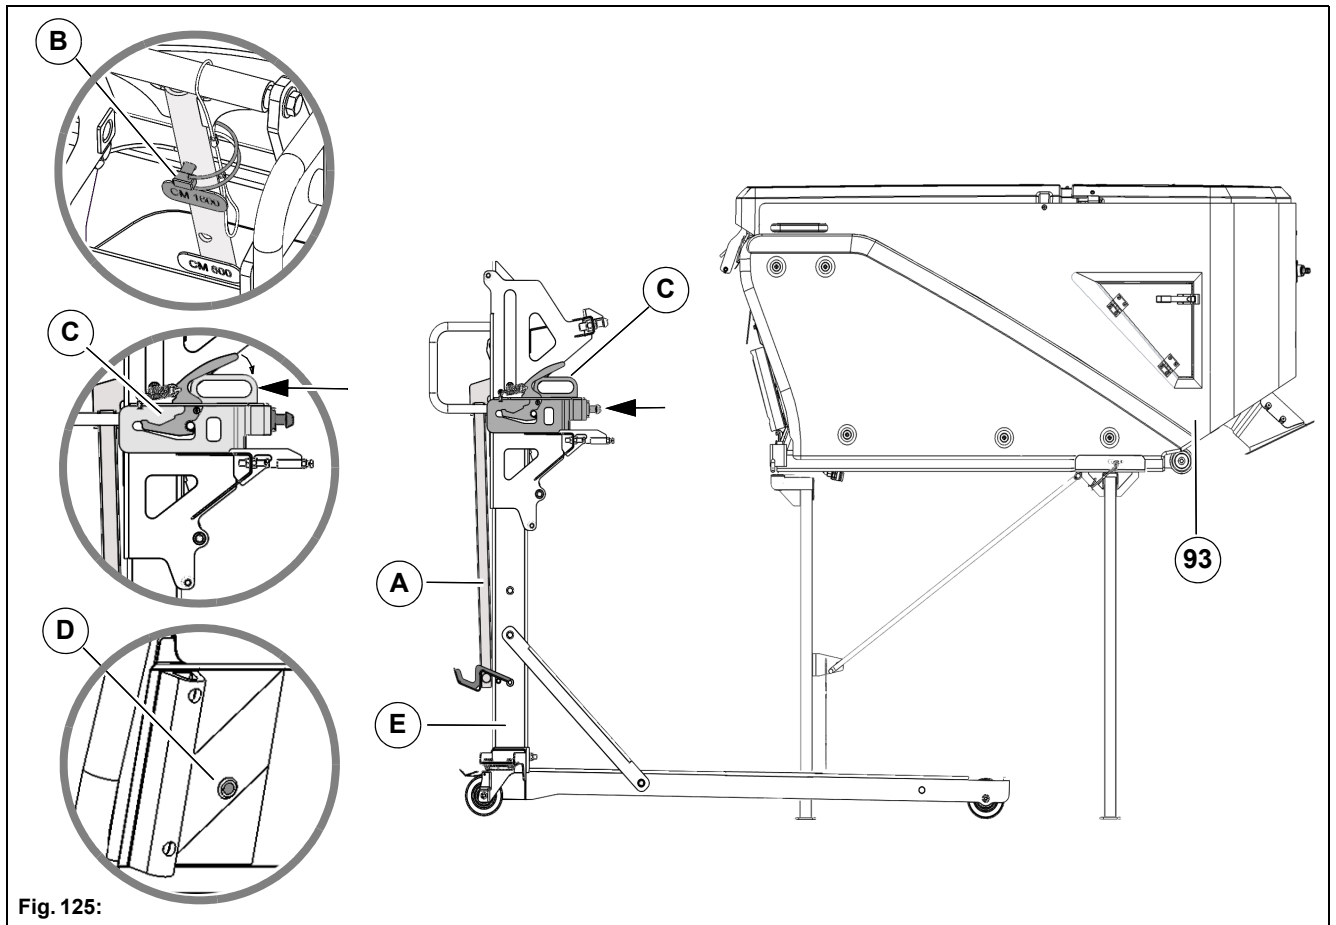

Fig. 125:
2. Unlock the lever **Fig. 125-A** of the trolley **Fig. 125-E** (optional) and swing it into the upper position.
3. Hold the lever **Fig. 125-A** in the upper position with one hand. With your other hand plug the mounting bolt **Fig. 125-B** on the Citymaster 1650.
<p>Danger Risk of injury! The lever Fig. 125-A can swing over.</p>
4. Unlock the sledge **Fig. 125-C** with the lever and push it into the rear position.
5. Open the lock of the lid on the dirt hopper **Fig. 125-D** and swing the lid up.